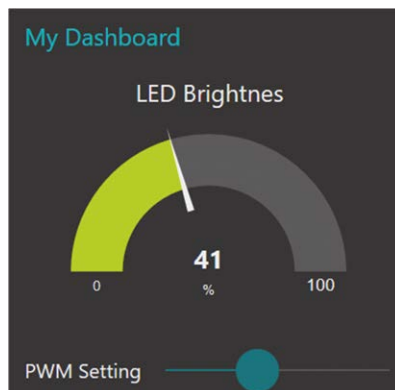

Figure 8.21 Move the slider to change the LED brightness
- Move the slider at the bottom part of the gauge (see Figure 8.21). You should see the brightness of the LED changing as the slider is moved from 0% to 100% (it is set to 41% in the figure).